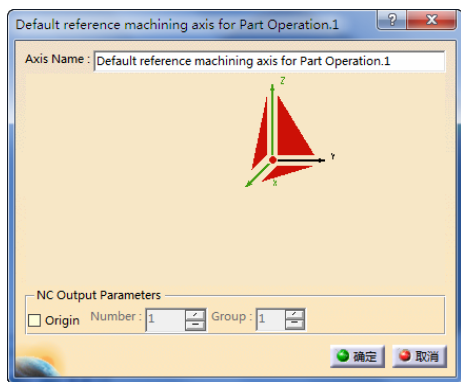

图 4-85 “Default reference machining axis for Part Operation.1”对话框 (3)
- 单击“Part Operation”对话框中的 Default reference machining axis system 按钮,弹出“Default reference machining axis for Part Operation.1”对话框(3),如图4-85所示。